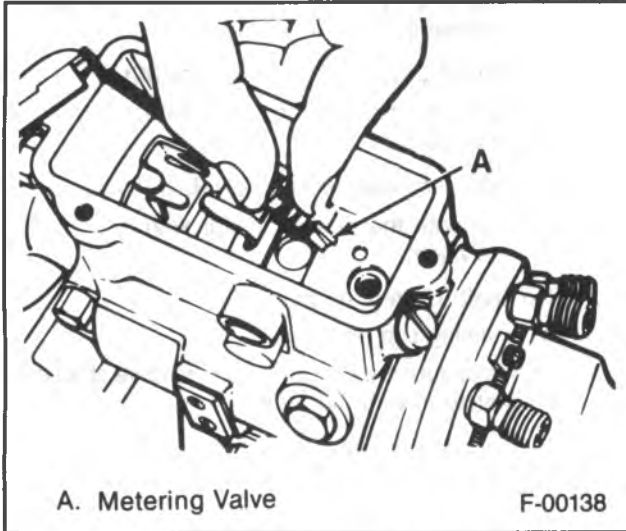

Figure 25 — Metering Valve
3. Metering valve (figure 25).
10. Metering valve (A) (figure 25).